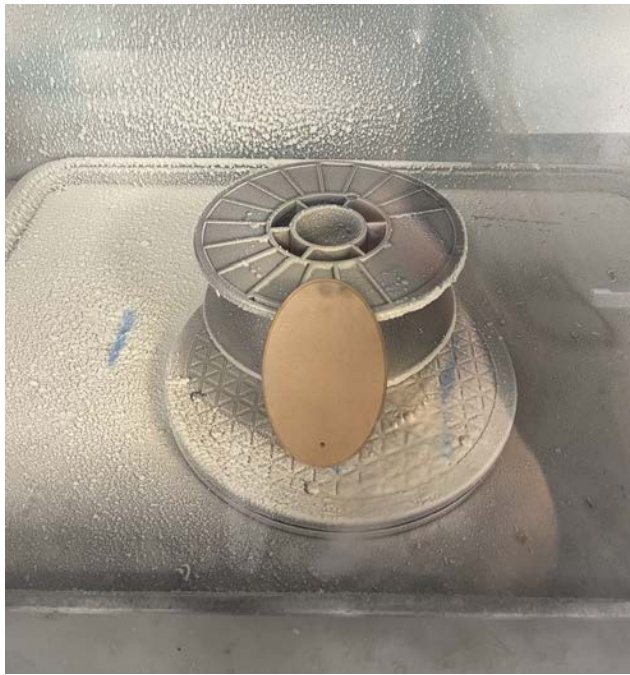

Figure 45: Acrylic window propped at an angle inside of a paint booth
7. Prop the window up at an angle (Fig 45)